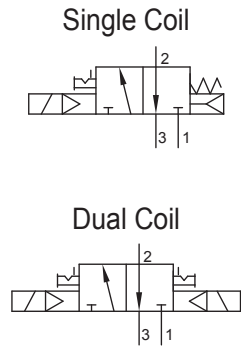

Figure 6: Schematics for 3/2
- **3/2 Single Acting/Spring Return configuration: Supply pressure to Port 1 (1/4" NPT), Exhaust to Port 3 (1/4" NPT). It is recommended to protect Port 5 (when not used) with a vented pipe plug or screen, do not plug completely. Refer to Figure 6 for the 3/2 schematic.**